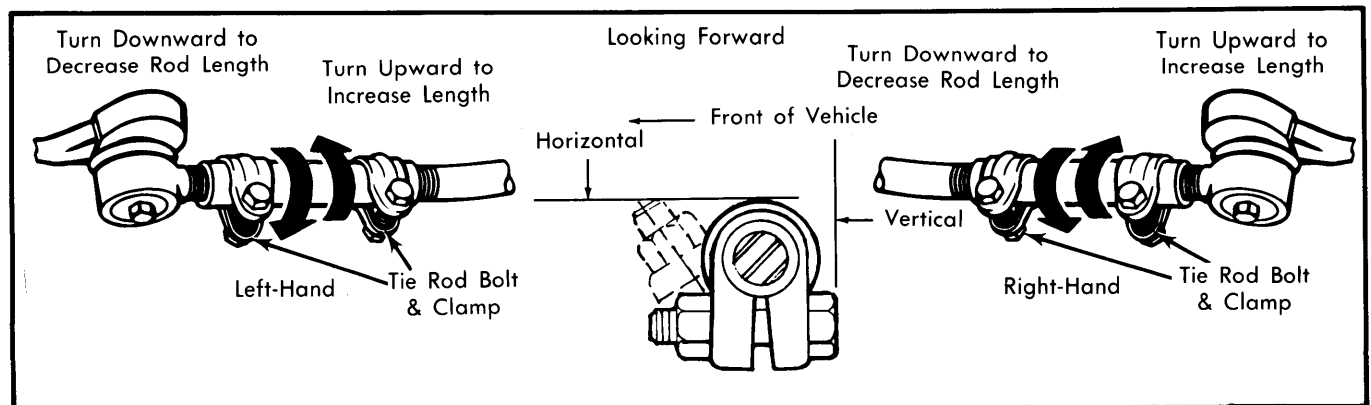

Fig. 8 Tie Rod Clamp & Bolt Position Rear Wheel Drive Vehicles
2) When toe and steering wheel spoke position are both correct, lubricate clamp, bolts and nuts. Tighten to specifications. The 2 clamp bolts on each side of vehicle must be positioned within limits shown in Fig. 8. With threaded end of bolts toward front of vehicle.